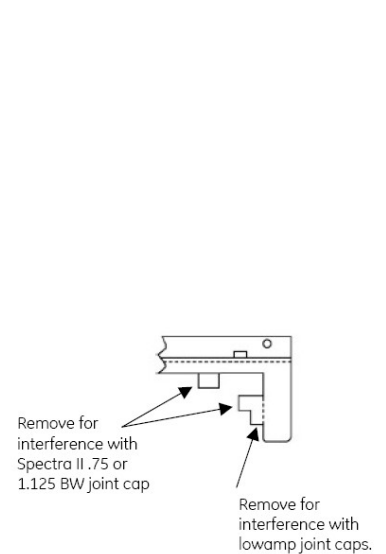

Figure 2. Break-Off Tabs
- To install a plug where the rear plug hanger interferes with a joint cap, it is necessary to remove the break-off tabs, as shown in the Figure 2.